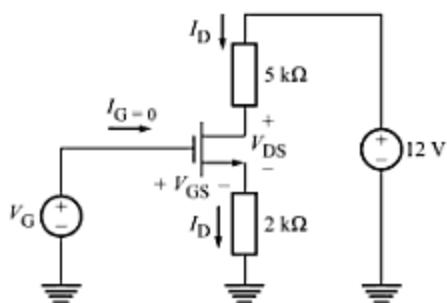

Fig. A-113
- A-80 Figure A-113 shows a field-effect-transistor (FET) circuit. Without knowing the current-voltage relationship for the device, we can still solve this circuit since it obeys Ohm's law and Kirchhoff's laws. (a) Determine V_{DS} , if $I_D = 1.5 \text{ mA}$. (b) Determine V_{GS} , if $I_D = 1 \text{ mA}$ and $V_G = 3 \text{ V}$.